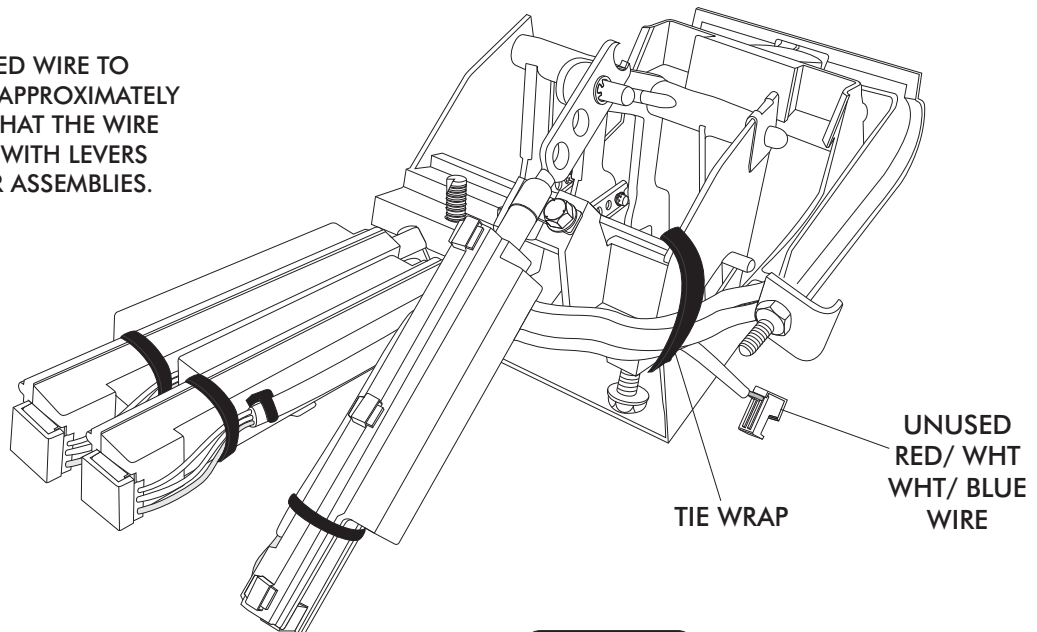

FIGURE 14
- USING THE SUPPLIED TIE-WRAPS, TIE THE WIRES TO THE CONTROL PANEL AS SHOWN IN FIGURE 14 BELOW. CONFIRM THAT WIRES ARE SECURED AND DO NOT INTERFERE WITH LEVER OPERATION OR CABLE CONVERTER ASSEMBLY.